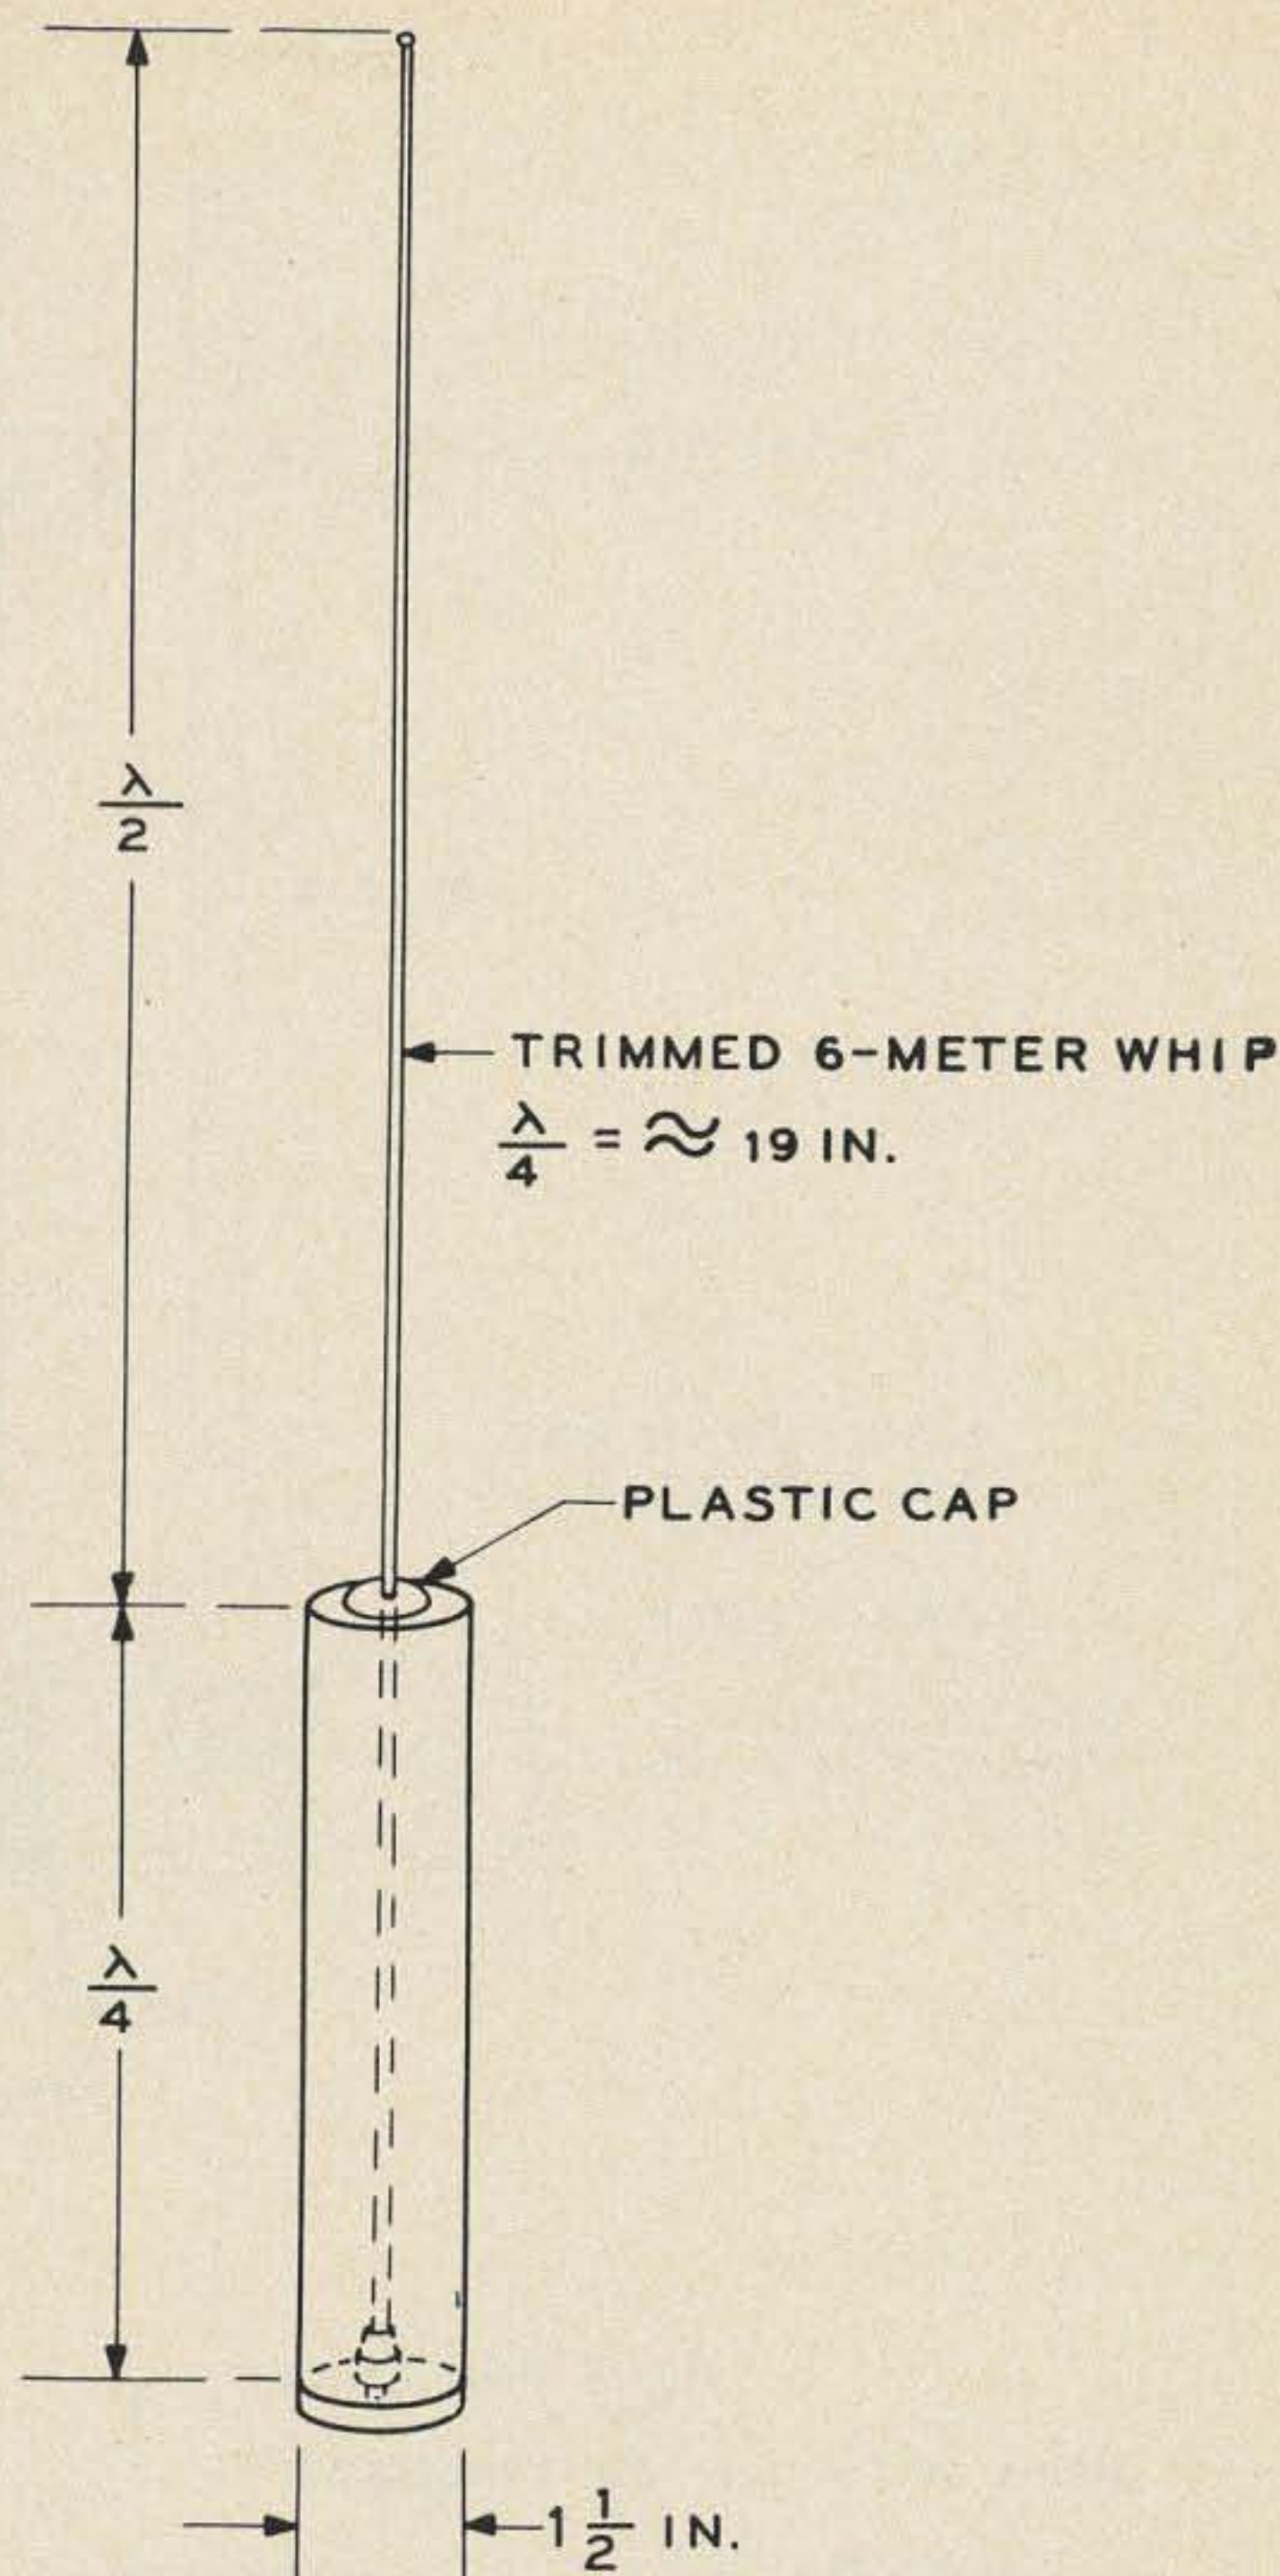

Fig. 2. The sewerpipe antenna.
The step from the J to the *sewerpipe* arrangement is simple. Use an unbalanced coaxial matching section for the unbalanced half-wave load. Adjusting the antenna's impedance to 50Ω is easily accomplished as shown in Fig. 2.
Chrome-plated brass pipe of $1\frac{1}{2}$ in. diameter is recommended for the matching section. If ordinary brass tubing is used, then a brass plug for the bottom can be turned to fit the tubing. Mechanical details are dependent upon the materials available, and will be left to the ingenuity of the builder. Dimensions are not critical, but things should fit together tightly. The inside depth of the matching section should be about 19 inches. Keep the plastic cap (Fig. 2 (A)) thin and use low-loss dielectric material, as this is a high voltage point. The internal feed assembly is physically similar to the gamma match used for unbalanced feed of a yagi antenna (omitting the series capacitor, of course). A clamp (Fig. 2 (B)) completes the connection from the off-center coax to the center conductor. The height of this clamp and the center-to-center spacing of the off-center member is varied to obtain a perfect match to 50Ω .